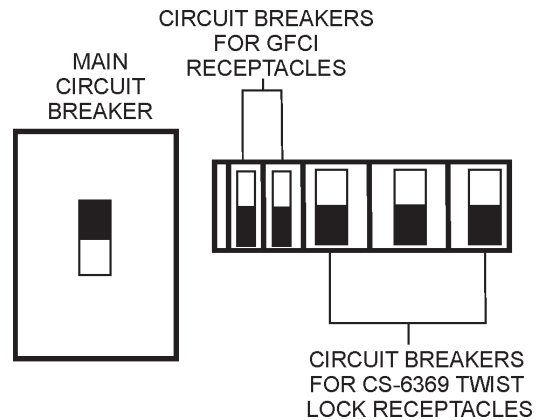

Figure 57. Main, Aux. and GFCI Circuit Breakers (ON)
17. Place the *main*, *GFCI*, and *aux.* circuit breakers in the "ON" position (Figure 57).